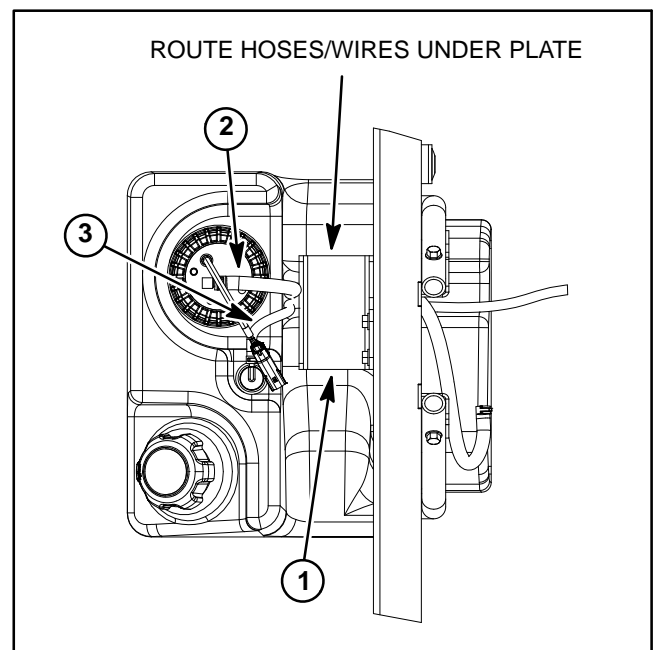

Figure 15
2. Position gasket (item 21) to sealing surface of fuel pump assembly.
3. Carefully insert fuel pump assembly and gasket into tank. Orientate fuel fitting so that it is pointing toward the vehicle frame (Fig. 15).